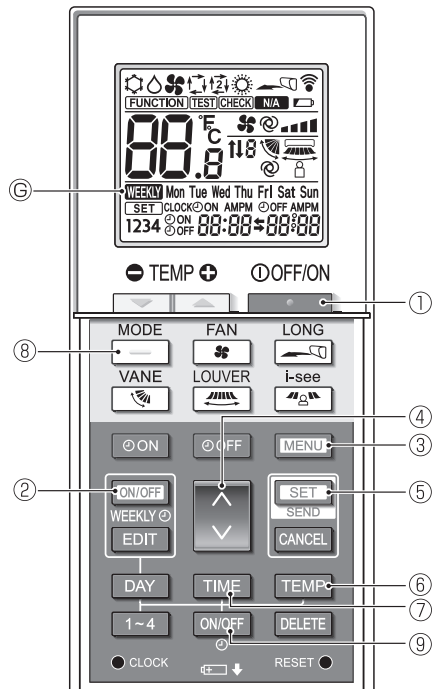
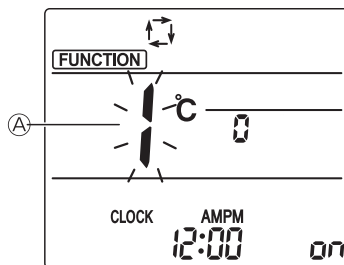
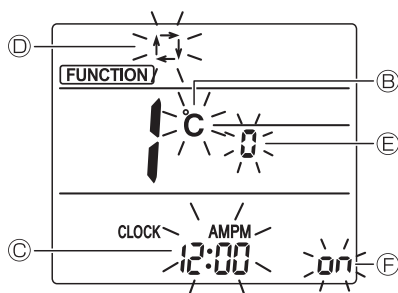

Fig. 3-1
Fig. 3-2
Fig. 3-3
1. Switching to the initial setting mode (Fig. 3-1, Fig. 3-2)
- Press the **STOP** button ① to stop the air conditioner.
- If the weekly timer is enabled, press the **ON/OFF WEEKLY** button ② to disable the timer. (**WEEKLY** Ⓒ disappears.)
- Press the **MENU** button ③.
- The Function setting screen will be displayed and the function No. ① will blink.
- Press the **UP** button ④ to change the function No.
- Check that function No. "1" is displayed, and then press the **SET** button ⑤.
2. Changing the temperature unit (Fig. 3-1, Fig. 3-3 Ⓑ)
- Press the **TEMP** button ⑥.
- Pressing the **TEMP** button ⑥ changes the temperature unit (°C / °F). (The factory setting is "°C".)
3. Changing the time display (Fig. 3-1, Fig.3-3 Ⓒ)
- Press the **TIME** button ⑦.
- Pressing the **TIME** button ⑦ changes the time display (12:00 / 24:00). (The factory setting is "12-hour format".)
4. Changing the AUTO mode (Fig. 3-1, Fig.3-3 Ⓓ)
- Press the **AUTO** button ⑧.
- Pressing the **AUTO** button ⑧ changes the Auto mode (Ⓓ / Ⓔ). (The factory setting is "Single set point".)
5. Changing the pair No. (Fig. 3-1, Fig.3-3 ㉔)Press the  button ㉔.